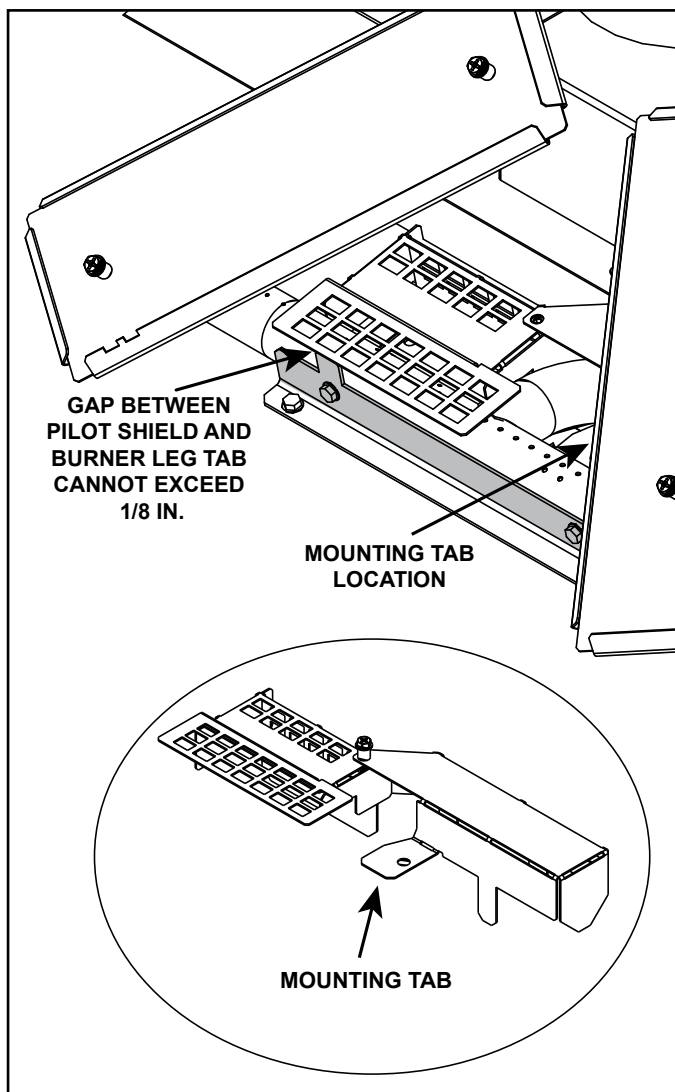

Figure 20 Gap Between Pilot Shield and Burner Leg Tab
- The gap between the pilot shield and the burner leg tab must be 1/8 inch or less. Bend the mounting tab to adjust the gap. See Figure 20.